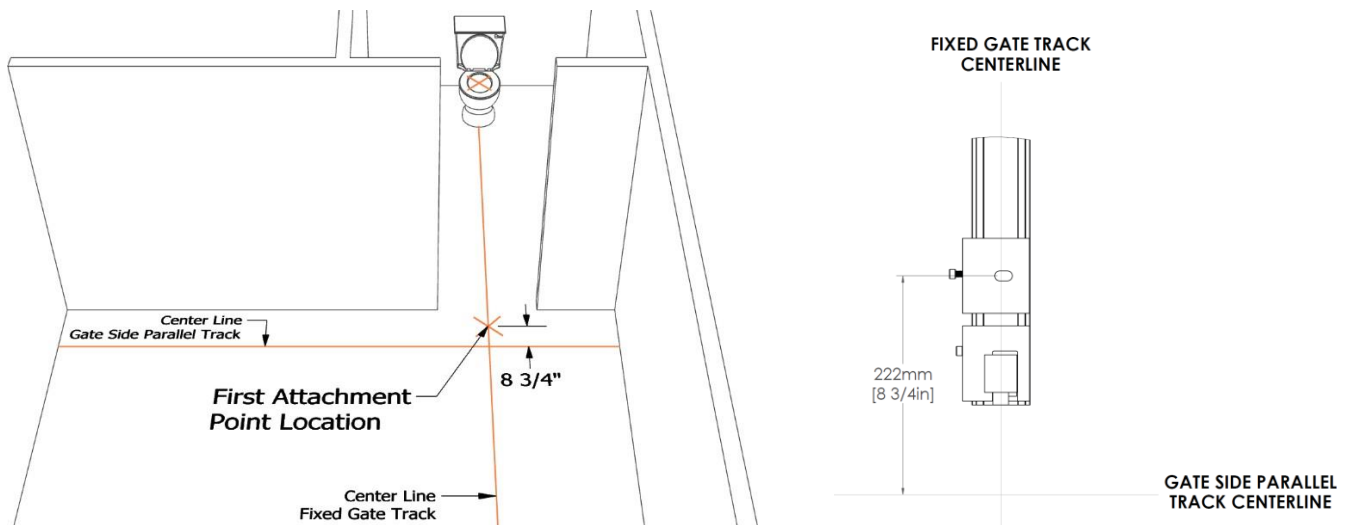

Figure 74: **First Attachment Point Along the Fixed Gate Track Center Line**
3. Identify and mark the first attachment point along the fixed gate track center line (Figure 74).